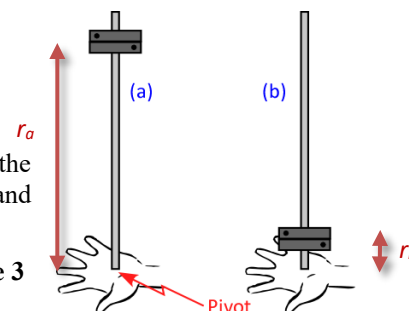

Figure 3: Balancing the rod and masses
- Try balancing the rod each way – was your prediction correct? Add **Figure 3** to the *Predictions* page of your journal and label  $r$  for each rod (see part V. *Drawing Arrows and Lines* from Useful Things to Know in Microsoft Excel). Briefly explain the difference between the two orientations using the idea of moment of inertia,  $I$ :
The rod is easier to balance in position (a). The moment of inertia is greater in this orientation because the lever arm,  $r$  is longer ( $r_a > r_b$  in Figure 3).